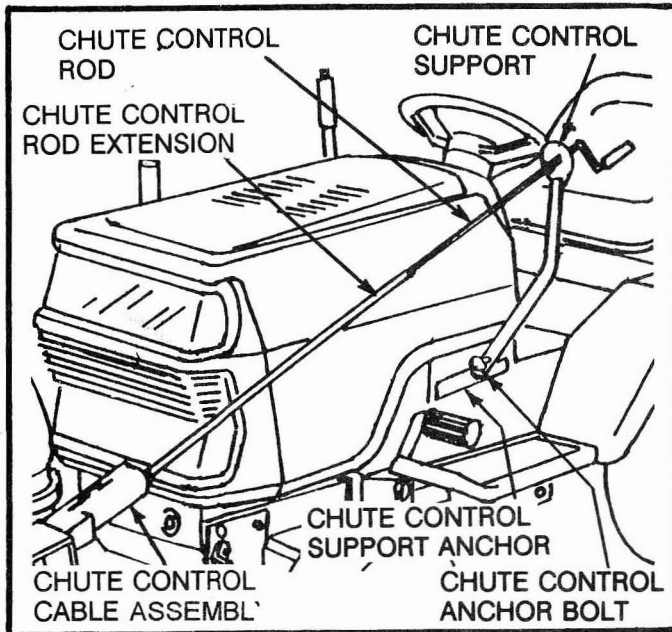

FIG. 20
- Place Chute Control Rod Support over pin on chute control rod support anchor and secure by tightening chute control anchor bolt. (See Fig. 20)